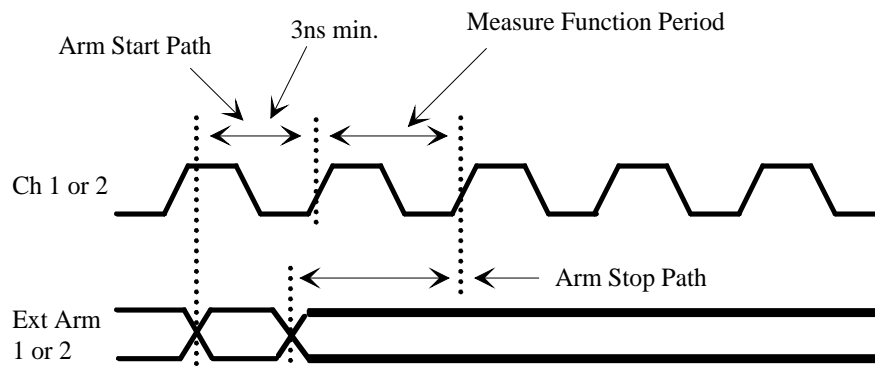

Figure 2-11 External Arm
1. Select which Arm, 1 or 2, to arm Channel 1 or 2. Arm 1 or 2 can arm Channel 1 and 2 separately, or Arm 1 or 2 can arm both channels (See Figure 2-11).